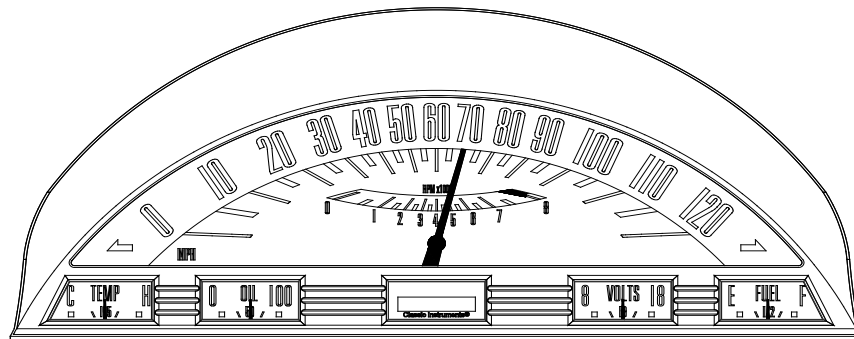

FIG. 6
- 5) If you are finished making setup changes, press and hold the pushbutton with the tachometer pointing to 8000 RPM to exit setup mode. **Fig. 6**